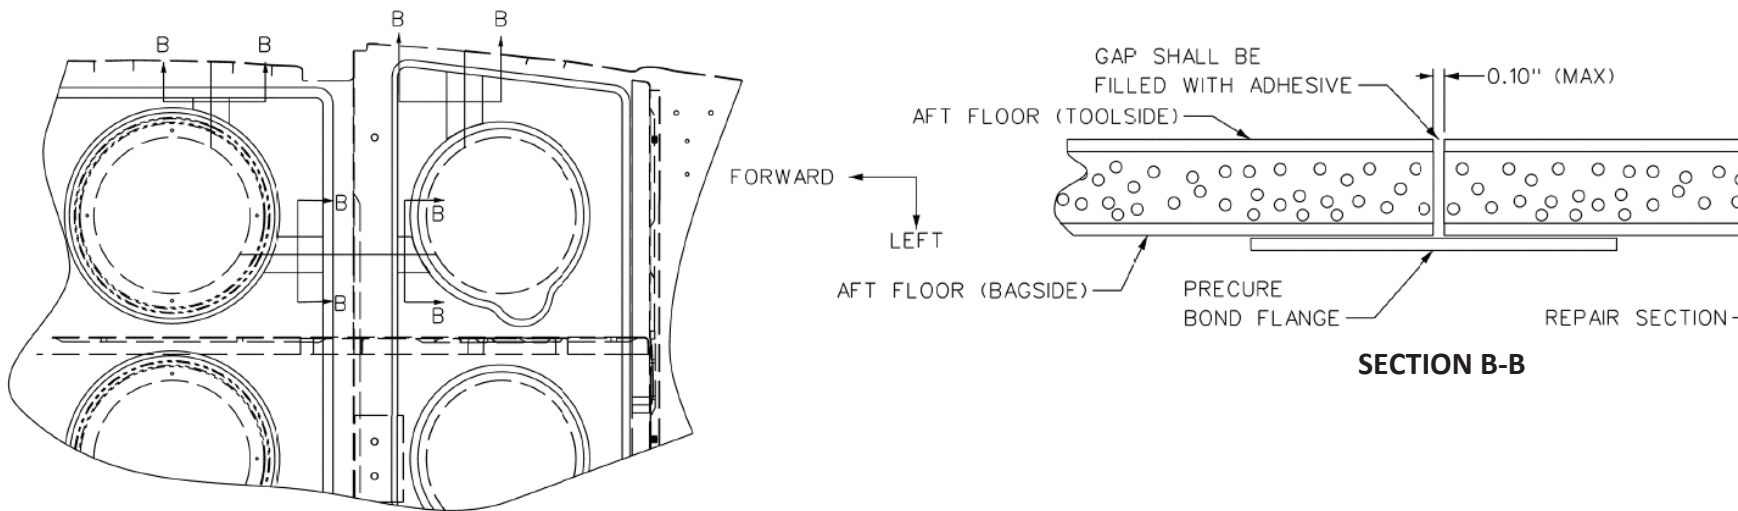

FIGURE 3
1. FIT REPAIR SECTION TO AFT FLOOR. REFER TO FIGURE 3.